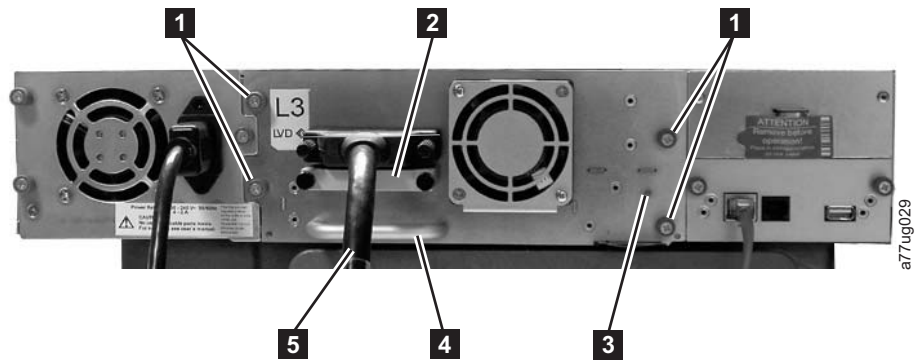
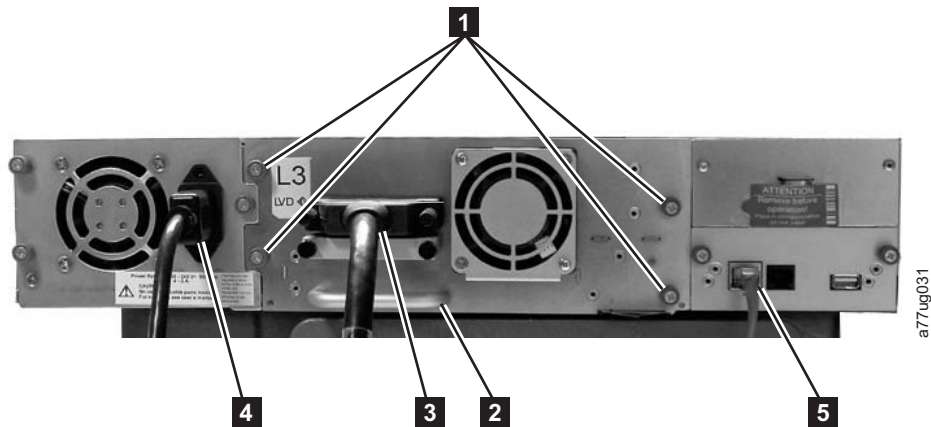

Figure 9-1. Drive sled components on back panel of a 2U library
Figure 9-10. Rear panel of 2U library
- Disconnect the power cord (**4** in Figure 9-10 on page 9-10).
- Disconnect the host interface cable (**3** in Figure 9-10 on page 9-10).
- Disconnect the Ethernet cable (**5** in Figure 9-10 on page 9-10), if necessary.
- Loosen the blue thumbscrews on the tape drive (**1** in Figure 9-10 on page 9-10), and pull the tape drive handle (**2** in Figure 9-1 on page 9-2) while supporting the bottom of the drive to remove the drive from your library.